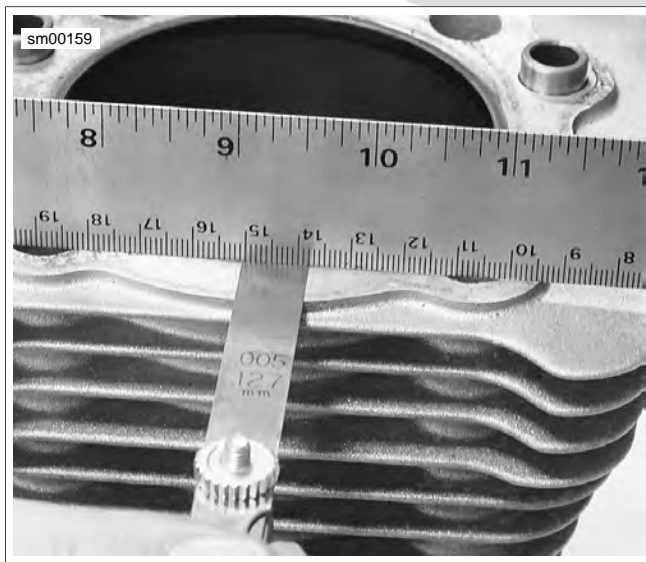

Figure 3-74. Checking Gasket Surface
1. See Figure 3-74. Check cylinder head gasket surface for flatness.